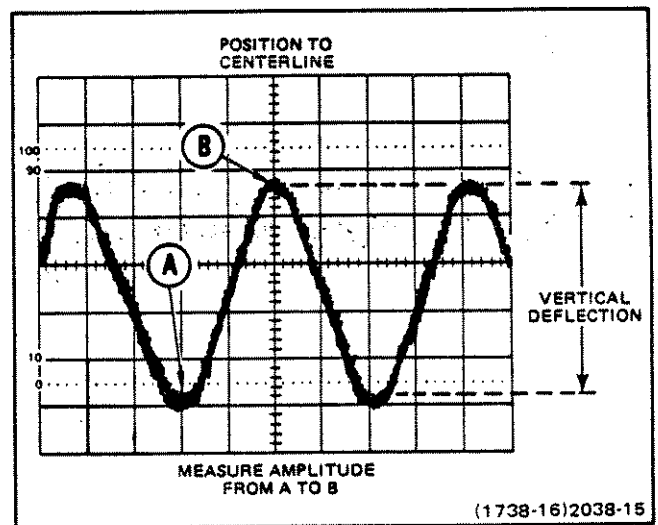

Figure 14. Peak-to-peak waveform voltage.
2. Ensuring that the VAR VOLTS/DIV control is in the calibrated detent, vertically position the display so that the negative peak of the waveform coincides with one of the horizontal graticule lines (see Figure 14, Point A).
3. Horizontally position the display so that one of the positive peaks coincides with the center vertical graticule line (see Figure 14, Point B).
4. Measure the vertical deflection from peak to peak (see Figure 14, Point A to Point B).
EXAMPLE: The measured peak-to-peak vertical deflection is 4.6 divisions (see Figure 14) with a VOLTS/DIV switch setting of 0.5, using a 10X scale-factor-switching probe.